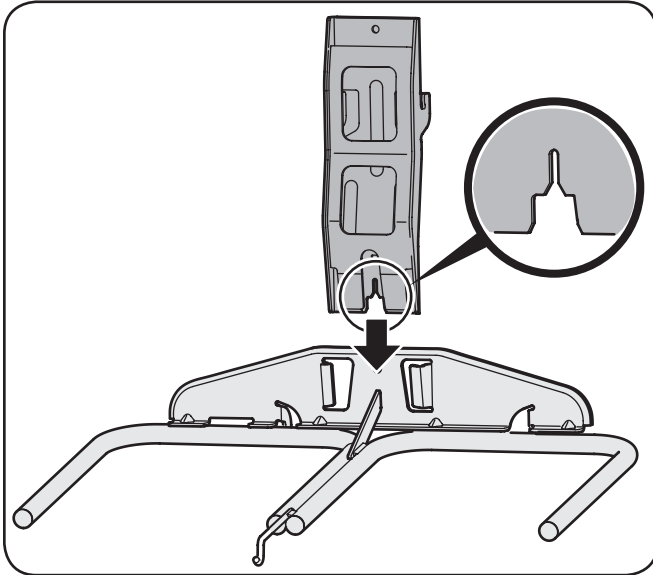
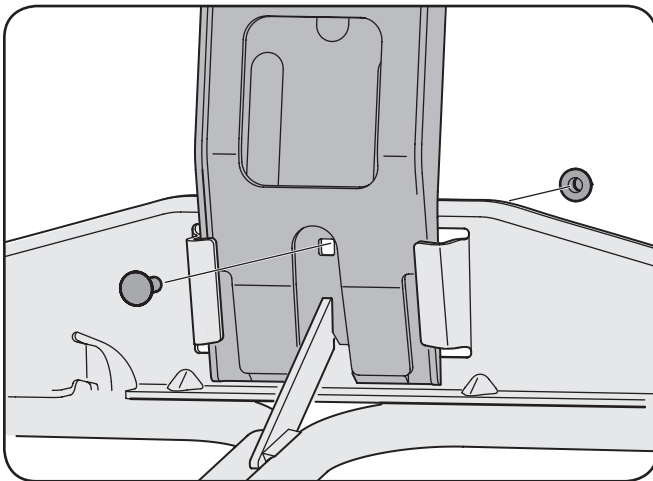

Figure 4-6
Figure 4-7
2. Insert the notched end of the vertical support bracket into the bag support assembly, as in Fig. 4-6, and secure with a 5/16-18 carriage bolt and 5/16-18 flange lock nut. See Fig. 4-7.